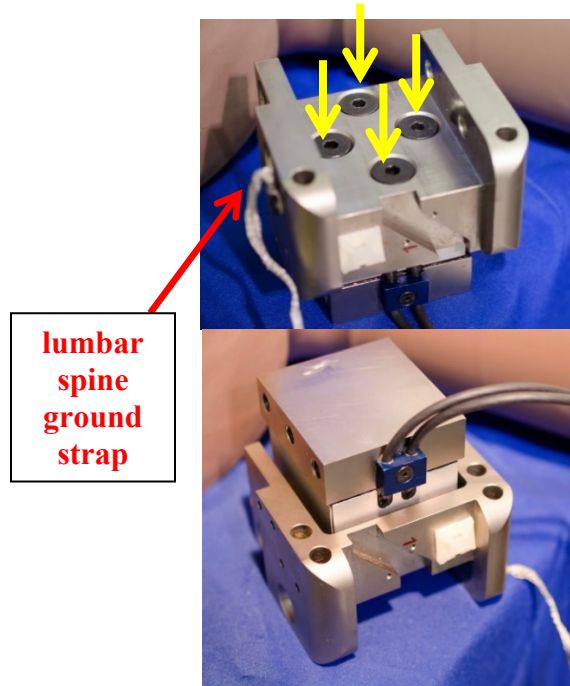

Figure 5-14. Install thoracic spine load cell to thoracic spine load cell flex joint adaptor plate
- 5.2.2.8 Install the Thoracic Spine Load Cell (SA572-S127) into the Thoracic Spine Load Cell Flex Joint Adaptor Plate (472-3731) using M8 x 1.25 x 20 FHCS on the bottom of the plate (Figure 5-14). Secure the lumbar spine ground strap (472-8703) to the Thoracic Spine Load Cell Flex Joint Adaptor Plate using an M4 x 8 BHCS on the right side of the plate.